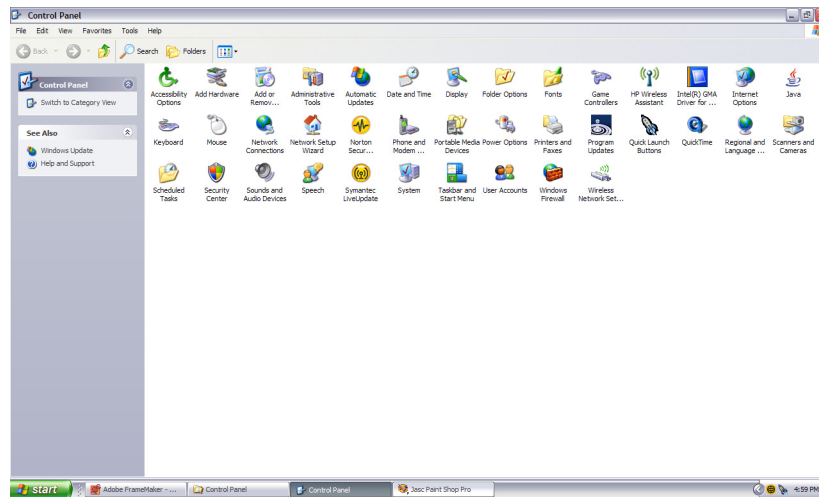

Figure 1-7 Control Panel
2. Select *Start > Settings > Control Panel* and the *Control Panel* appears (Figure 1-7).